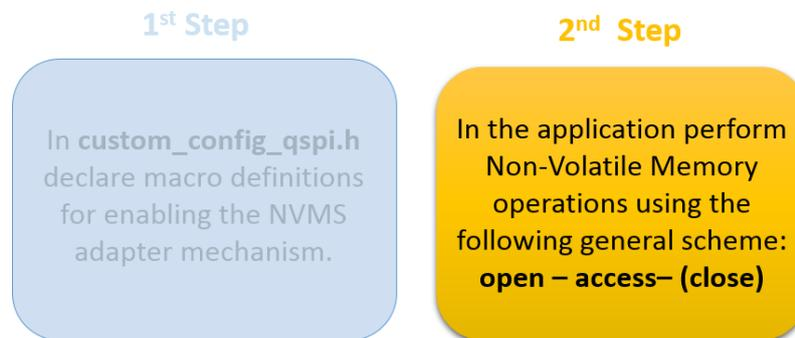

**Figure 4: First Step for Configuring the NVMS Adapter Mechanism**
- As illustrated in Figure 4, to configure the NVMS adapter mechanism you need to enable it by defining the following macros in the project's /config/custom\_config\_qspi.h header file: